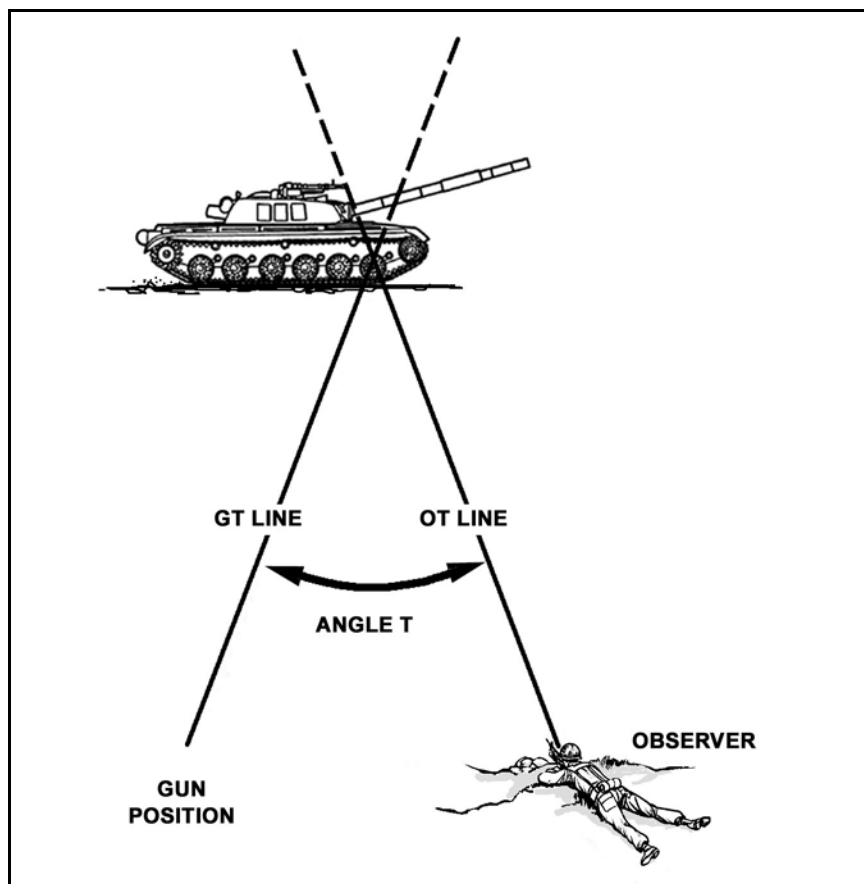

Figure 8-10. Angle T.
c. **Angle T.** Angle T (Figure 8-10, page 8-14) is the angle formed by the intersection of the gun-target line and the OT line with its vertex at the target. If angle T is 500 mils or greater, the FDC should tell the observer. If this occurs, the observer continues to use the OT factor to make his deviation corrections. If he sees that he is getting more of a correction than he has asked for, the observer should consider cutting the corrections to better adjust rounds onto the target.